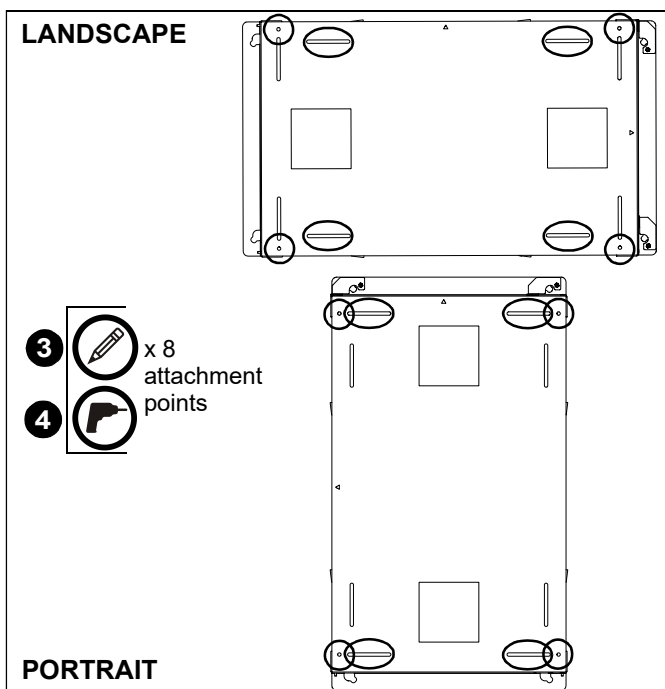

Figure 2
2. Level and adjust PSMO2169 making sure the corner holes and slots at upper and lower edges are properly positioned for either landscape or portrait installation. (See Figure 2)
3. Mark the location of eight mounting holes onto wall. The four corner hole locations must be used first. (See Figure 2)
4. Drill eight pilot holes at marked locations. (See Table 1) and (See Figure 2)